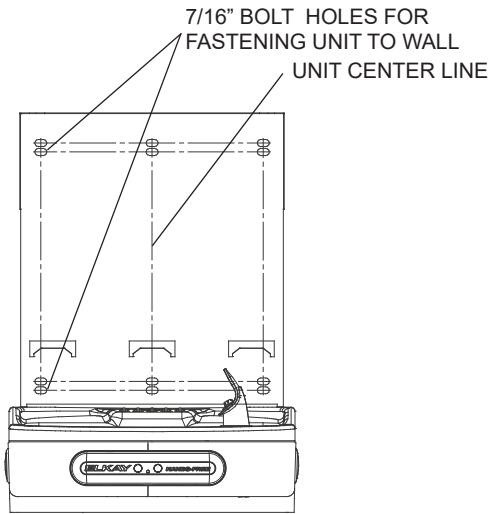
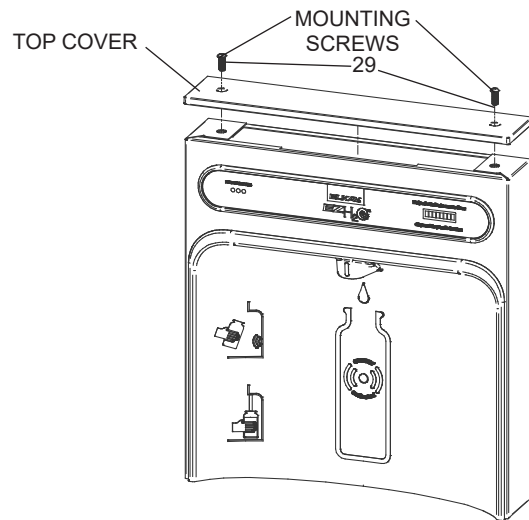
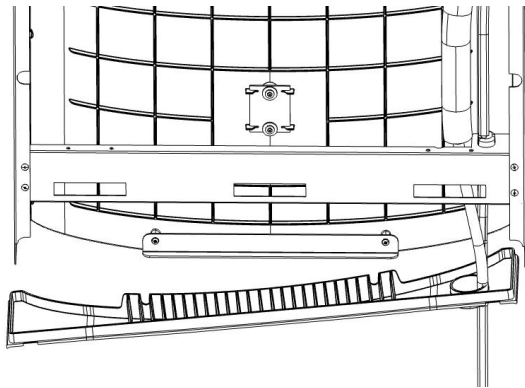

Fig. 5
Fig. 6
Fig. 7
- 1) Remove two (2) mounting screws with 5/32" Allen wrench holding top cover to Bottle Filler (See Fig. 6). Remove top cover. Note do not discard mounting screws, they will be needed to reinstall top cover.
- 2) Remove wall mounting plate from Bottle Filler. Place wall plate against wall on top of basin. Center the wall plate side to side with the basin. Mark the six (6) mounting holes with a pencil.
- 4) Install wall mounting plate to wall using six (6) 7/16" obround mounting holes (mounting bolts not included) (See Fig. 5). Use appropriate fasteners for your wall type.
- 7) Feed power cord & 3/8" water line through hole in tower/basin gasket (See Fig. 7).
- 8) Once Bottle Filler is installed on wall plate tabs, water line, wire(s) and power cord are installed properly, push top of Bottle Filler toward wall and line up top cover two (2) holes.
- 9) Reinstall Top Cover on Bottle Filler (See Fig. 6) with two mounting screws from step 1 above. Caution, do not over tighten screws.